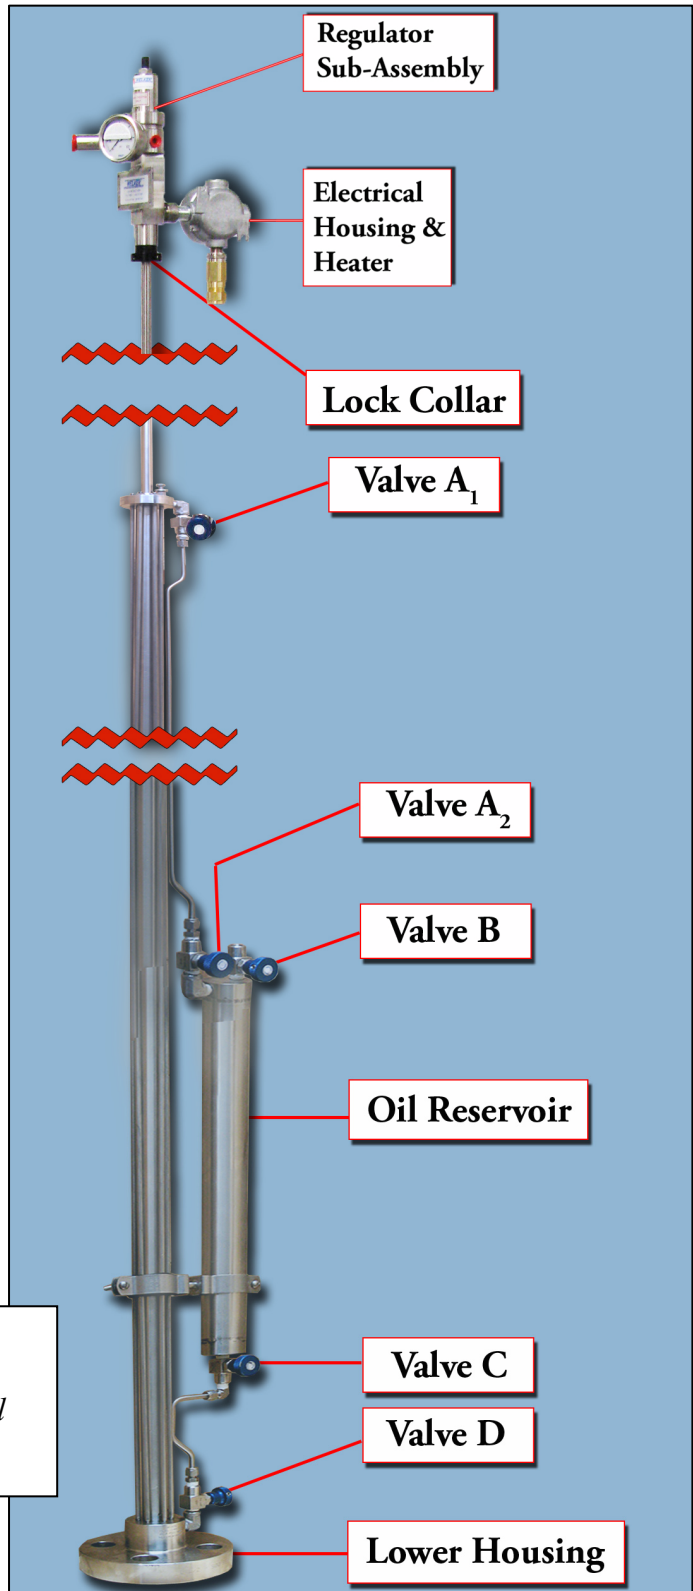

Figure 1
3. Remove the lockdown bolt and washer. Loosen the stop collar (lock collar) and hex socket cap screw (Figure 3 and Figure 1).
3. Open valve A₂ and close valves C and D (Figure 1 on page 4).